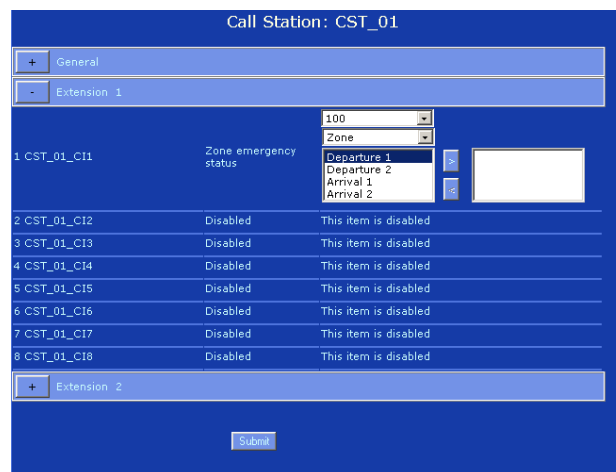

figure 38.31: Zone emergency status, step 4
- 4 Select the priority that must be assigned to the action. See figure 38.31 for an example.